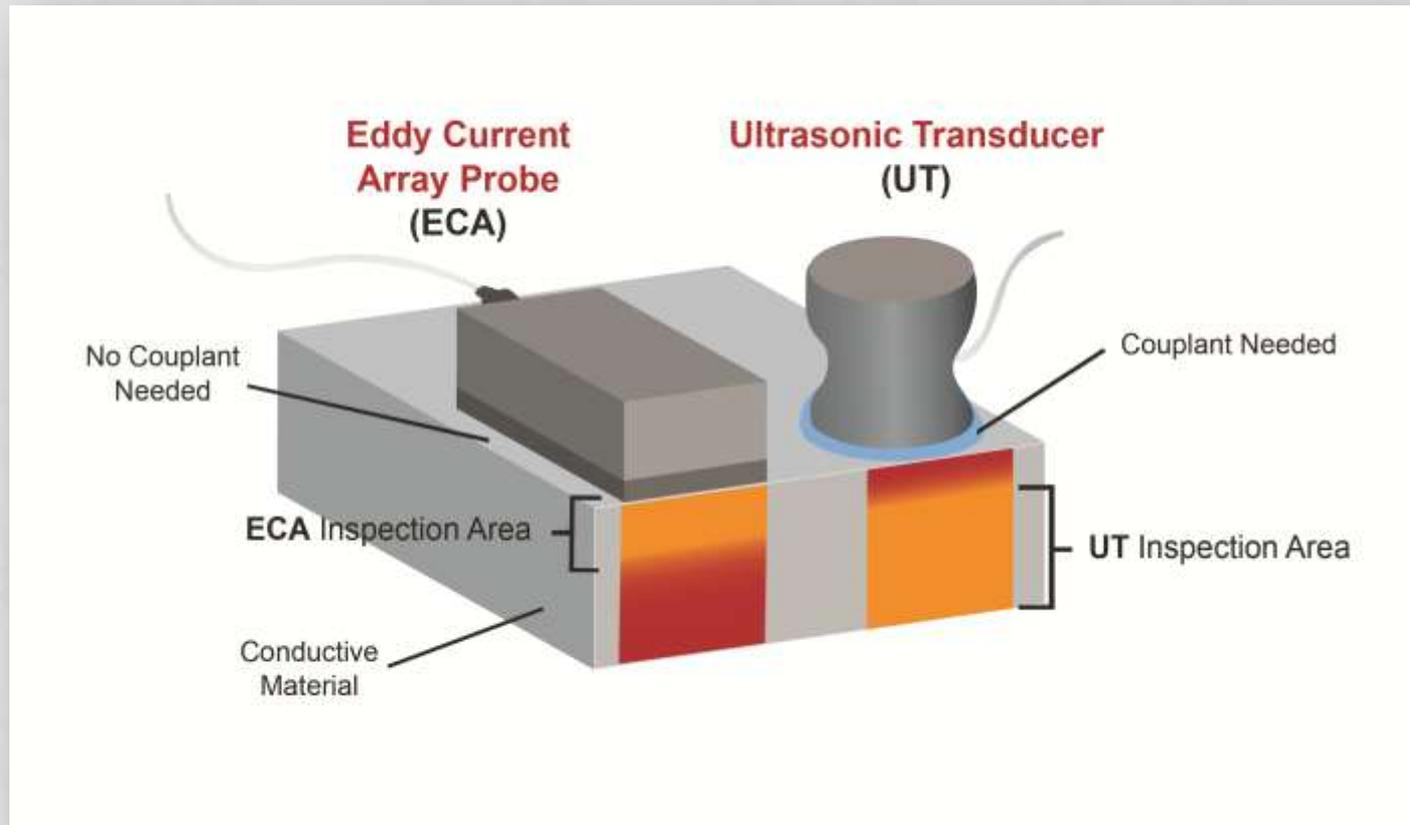

Figure 1: The different inspection areas between ECA and UT
- Magnetic Particle (MT) - ASTM E709. Electromagnetic. Slow process, can miss indications and gear teeth have to be wiped clean to remove any residue.
- Dye Penetrant (LT) - ASTM E1417. Same issues as Magnetic Particle.
- Ultrasonics (UT) ASTM A609. Requires couplant - faster than the above two methods, has a “blind” spot for surface, but can see depth. (Fig. 1)